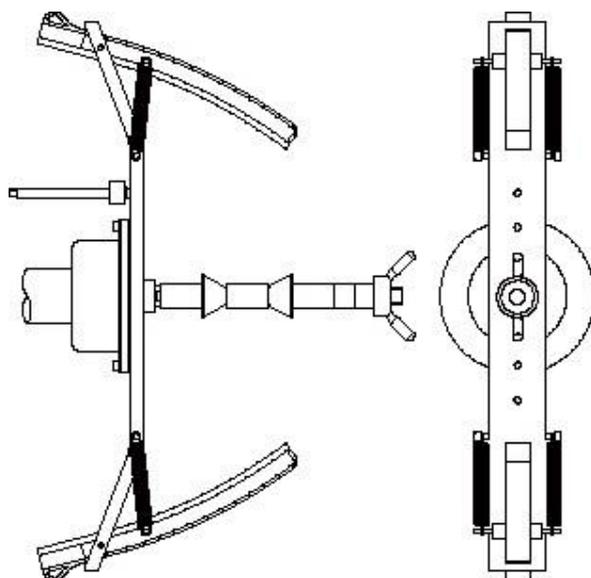

Fig. F4.2 Application of sample weight on the internal side of the motorcycle flange on the shaft (Cal2 phase)
8. At the end of the launch, the machine will display the writing  . Apply the calibration weight on the internal side as shown in Figure F4.2. The calibration weight is to be applied on the hole that has the writing “CAL” marked on it;
shown in figure F4.2 and press the [P8] Start or lower the wheel guard.